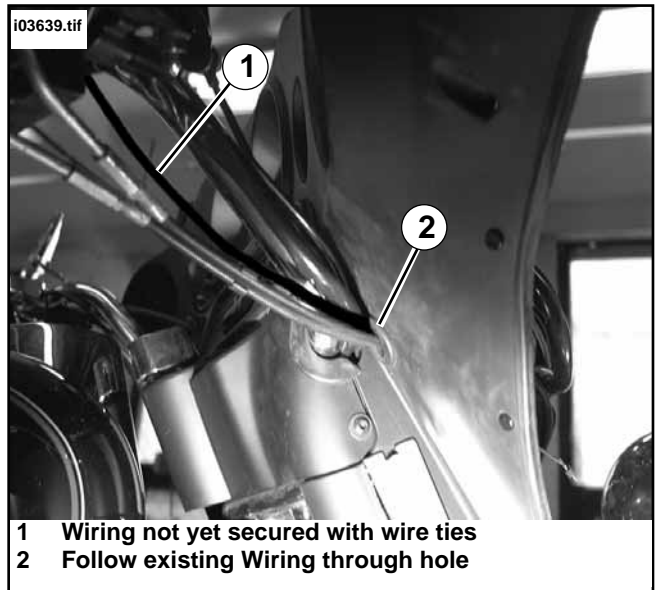

Figure 21. FLHT Wire Routing
- See Figure 21. Route the ON/OFF switch wiring following right handlebar, existing switch wiring and brake line down through hole near fork tube, then out through front of inner fairing.